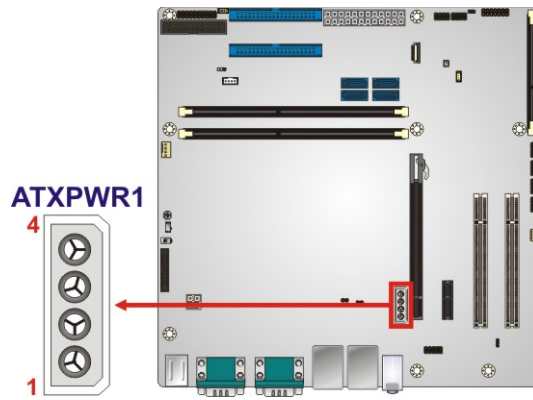

Figure 3-15: PCIe Power Location
- CN Location:** See **Figure 3-15**